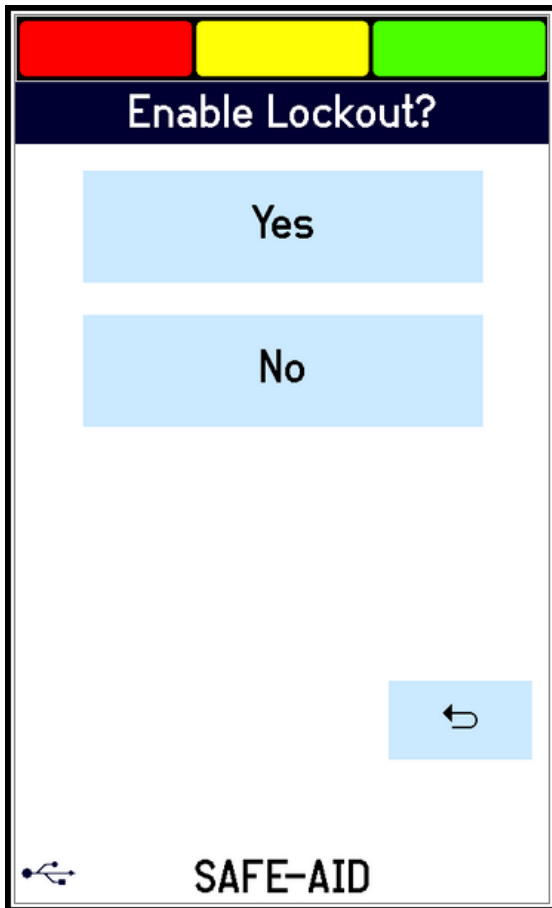

Figure 27
3. To lock or cancel a locked program select the button below Program 1 or Program 2, **Enable Lockout** screen (figure 27) will be displayed.
2. Press the  and the Brightness adjust screen (figure 27) will be displayed. Use the slider bar to adjust the screen to the required brightness.